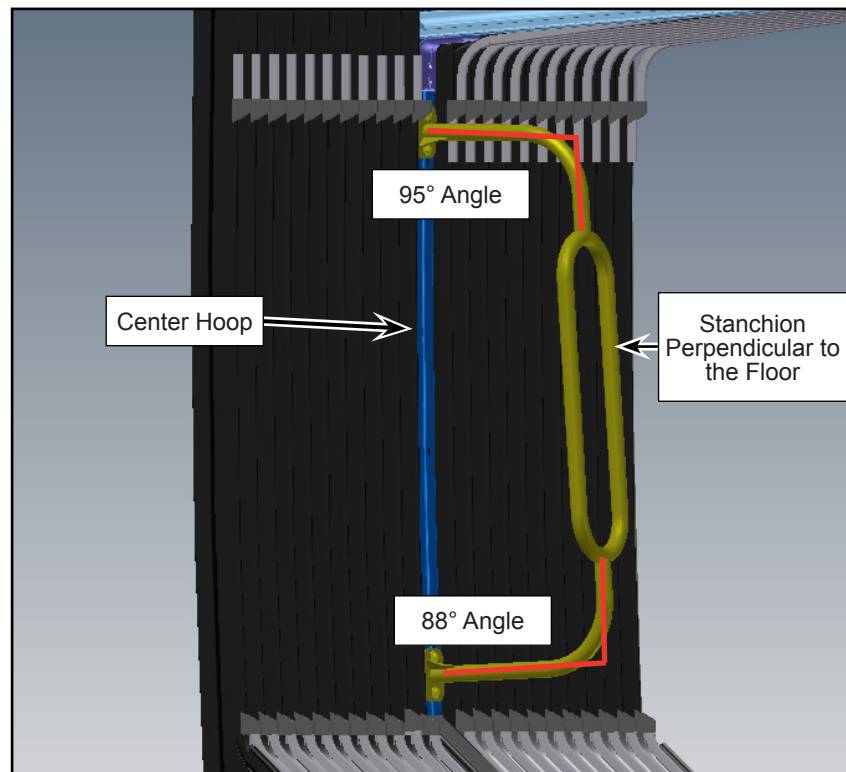

Figure 7 - Typical View of Stanchion Orientation
- 1.10. Ensure that the curb side stanchion is vertical (perpendicular to the floor) (see Figure 7).